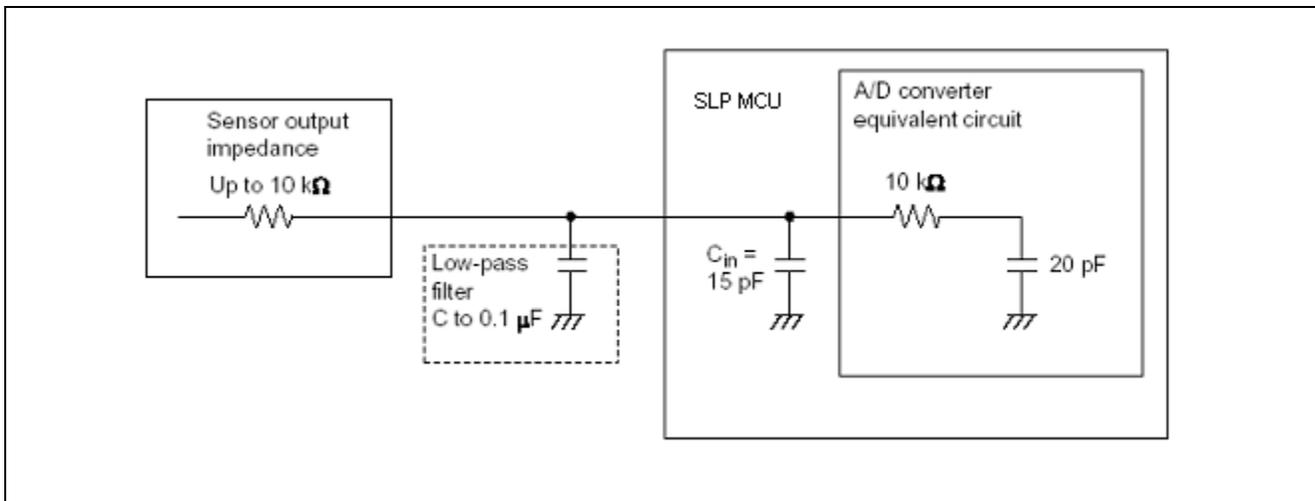

Figure 13 ADC Equivalent Circuit
- The maximum allowable signal impedance is $10\text{ k}\Omega$. If the output impedance of the sensor exceeds $10\text{ k}\Omega$, the input capacitance of the ADC sample-and-hold circuitry will not be charged sufficiently to ensure ADC precision. Figure 13 shows the equivalent ADC circuitry for the SLP MCU. If the external capacitance is large, the input load is effectively the internal $10\text{ k}\Omega$ input impedance. As a result of this low-pass filter effect, high-speed analog signals may not be reproduced correctly.